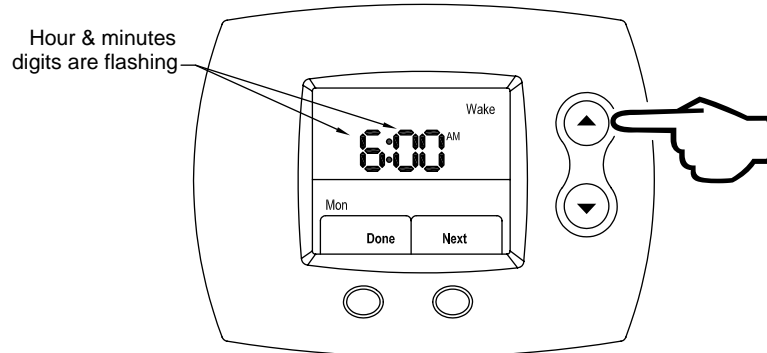

Figure 78
Step 4: Press the **UP** (increase time by 15 minutes) or **DOWN** (decrease time by 15 minutes) buttons until the wanted time is shown. This is shown in Figure 78.